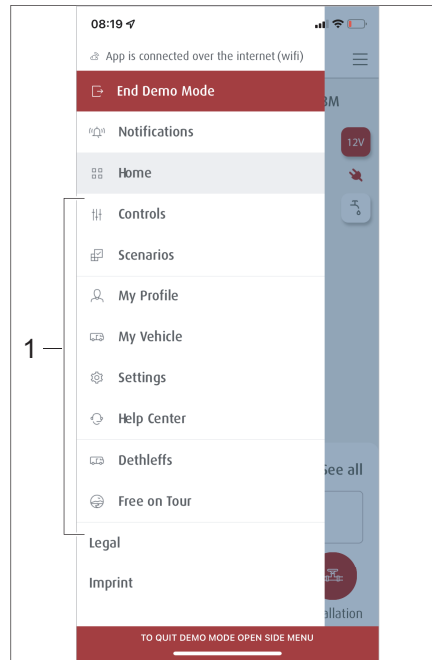

Fig. 301 Submenus
The submenus (Fig. 301,1) will be displayed.
- Click on *Scenarios* (Fig. 301,1) in the menu section.
- In the submenu (Fig. 301,1), select the *Operation* menu.
- In the submenu (Fig. 301,1) select the *My Vehicle* menu.